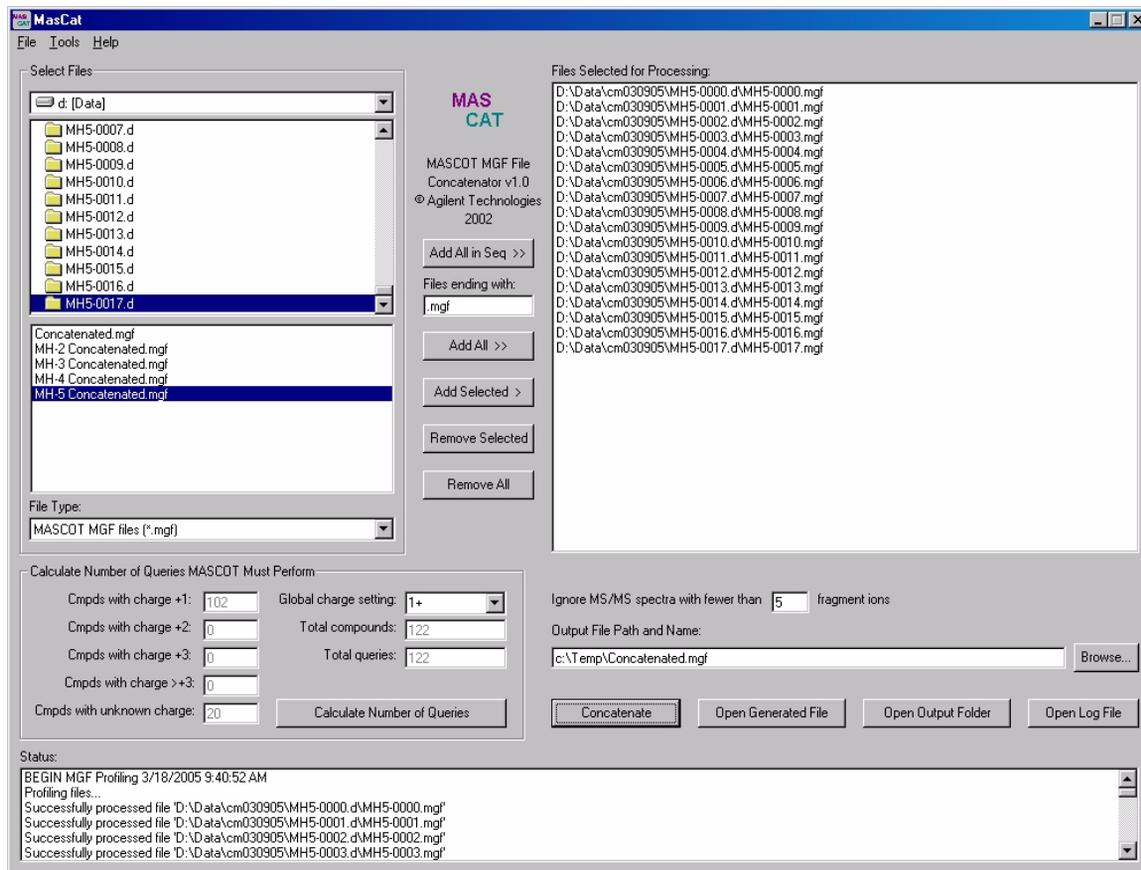

Figure 15 MASCAT concatenator to combine *.mgf files from multiple sample fractions (e.g., gel spots)
- 2 Select data files you wish to combine. See Figure 15 as an example.